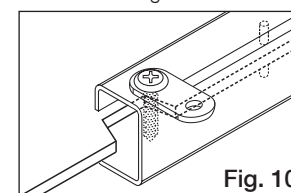

Fig. 10
- Use the 10 supplied flat brackets to secure the frame to your support structure. Ensure brackets are positioned in areas to coincide with the panel notches (Fig. 10).